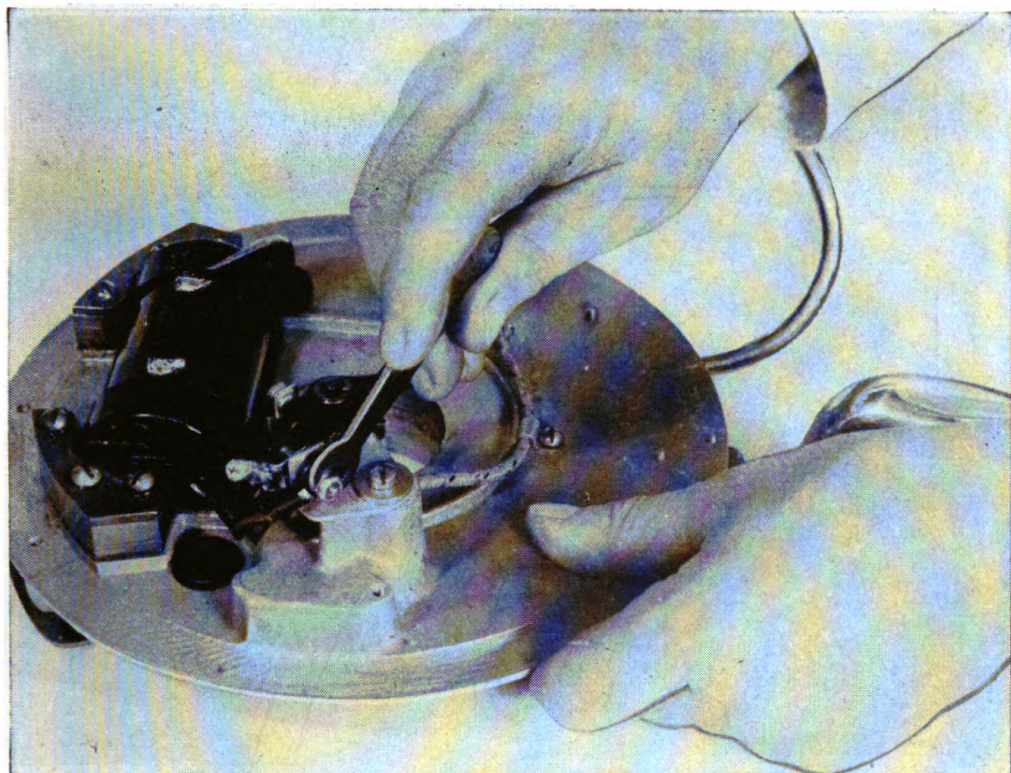

Figure 96. Removing nuts on breaker plate.
c. TO INSTALL NEW BREAKER POINTS. Loosen and remove nut holding breaker-arm spring fast to armature plate. Remove small clip holding breaker arm on pivot post. Lift breaker-arm assembly off pivot post. Remove nuts and washers holding stationary breaker point in breaker plate. (See fig. 96.) Install new points, stationary point,